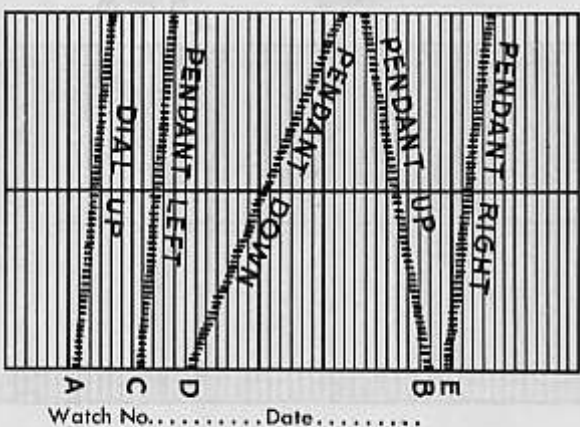

Figure 38 — Out-of-Poise Balance
(4) **FIGURE 38.** Many watches have balance and hairspring assemblies which are out of true dynamic poise and consequently have differences in rate in various vertical positions. Records "A," "C," and "E" show that this watch is in an acceptable condition. Records "B" and "D" show that the watch is out of balance in these two particular positions. If the watch is not affected in the three positions of "A," "C," and "E," and the recordings of "B" and "D" are such that these two positions do not exceed the accepted limits for this grade of watch, the watch may be declared acceptable.